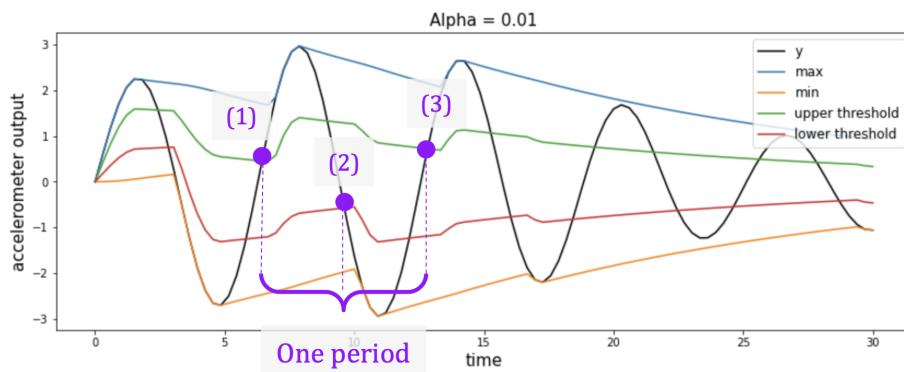

Figure 7. The length of the period is measured with hysteresis.
Having two thresholds allows us to implement hysteresis in peak detection. A CPR period will now be defined as the time it takes for the `analogValue` to (1) cross the `upperThreshold` from a lower value; (2) cross the `lowerThreshold` from a higher value; then (3) cross the `upperThreshold` from a lower value again (Figure 7).